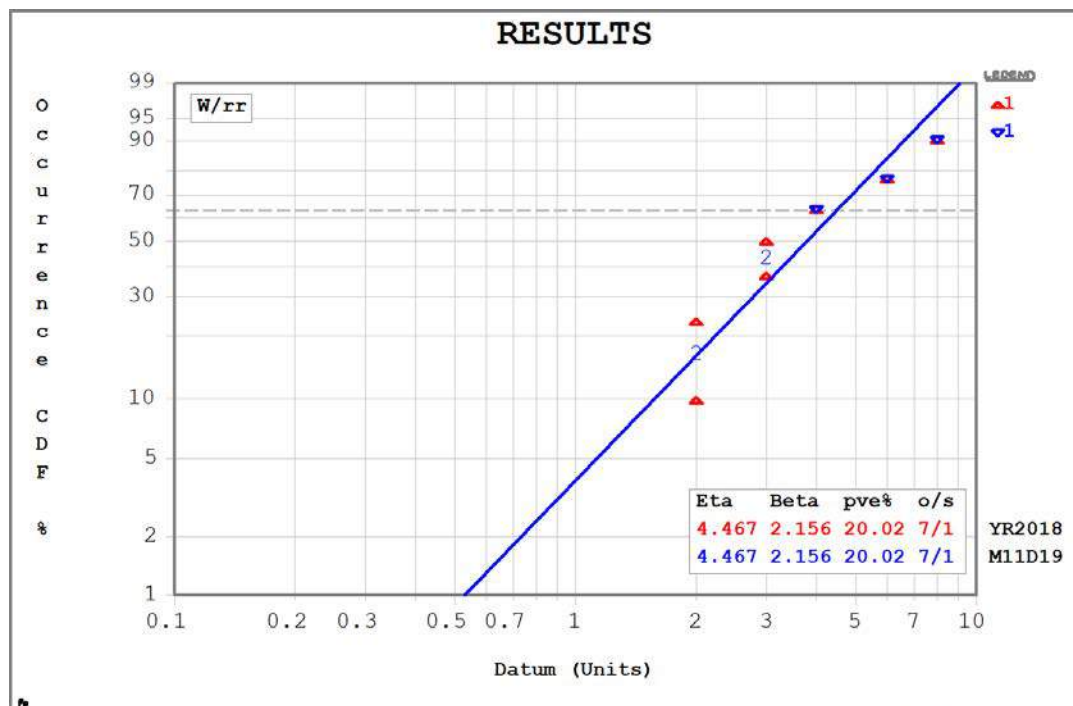

Figure 4: Weibull Plot Using “x2” After Data Values “2” and “3” for Set #2
- D. At the Main Screen, select Open/Import. Load file PlayTIME-A-Section-II-B.w. For this 2nd data set (same data values as set 1), repeated values such as “3” and “2” are entered with only one data entry each by changing the “x1” to “x2”. Select the plot to enlarge. Your plot should resemble Figure 4 below. Same solution for both data sets! A shortcut way to enter repeated values is with the frequency value after the separator “x”. Select on the plot or use the <ESC> key to return to the Main Screen.